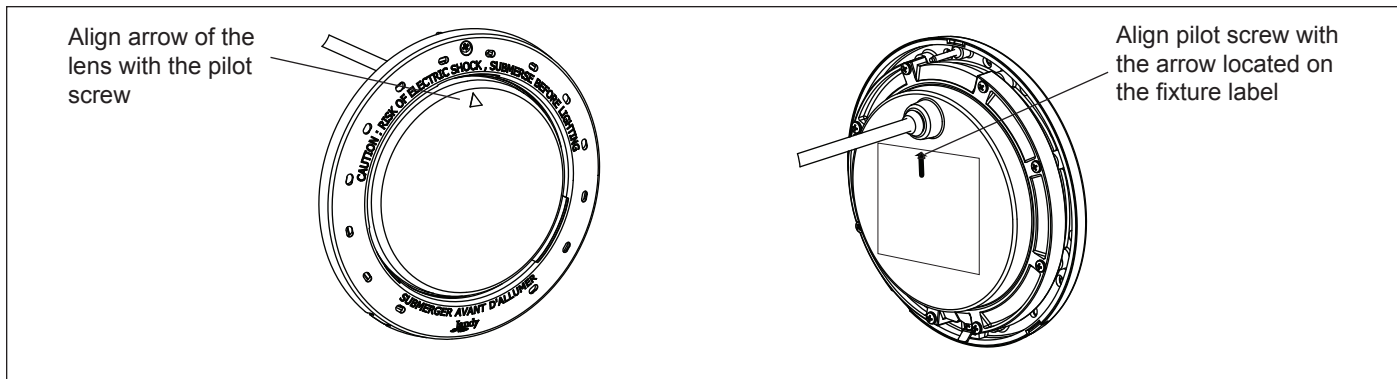

Figure 9. Alignment of the Lens, Face Ring, Housing and Clamps for WaterColors Lights
- c. Position the lens and gasket on the fixture. Place the face ring assembly over the lens and align the pilot screw with the small arrow mark on the face of the lens. Note that the small arrow mark on the face of the lens and the pilot screw of the face ring must be aligned with the arrow located on fixture label that reads, “Arrow on this label must line up with the pilot screw on the Face Ring”. See Figure 9.
- f. Tighten the Phillips head screws (eight (8) for large light and six (6) for small light) on the light in alternating cross-pattern. Torque screws to approximately 20 in-lbs. Do not over-tighten.